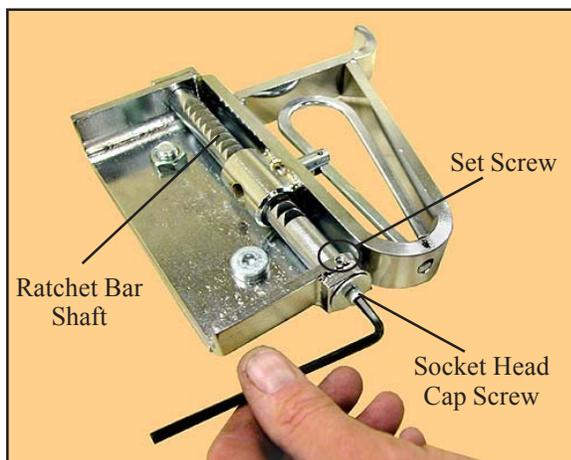

Figure 11 - Adjusting the Set Screw and Socket Head Cap Screw
1. Lower the hook momentarily and use a 3/32" Allen wrench to loosen the set screw located **on top** of the ratchet bar shaft (Figure 11). Do not remove the set screw - loosen it only. Then raise and engage the hook. (If you can't raise the hook, the set screw is too loose.)
2. Use a 5/32" Allen wrench to **loosen** the socket head cap screw at the rear of the ratchet bar, Figure 11. (To loosen: turn counter-clockwise).
3. At the rear of the ratchet bar shaft, use a 5/32" Allen wrench to **tighten** the socket head cap screw, Figure 11. (To tighten: turn clockwise).